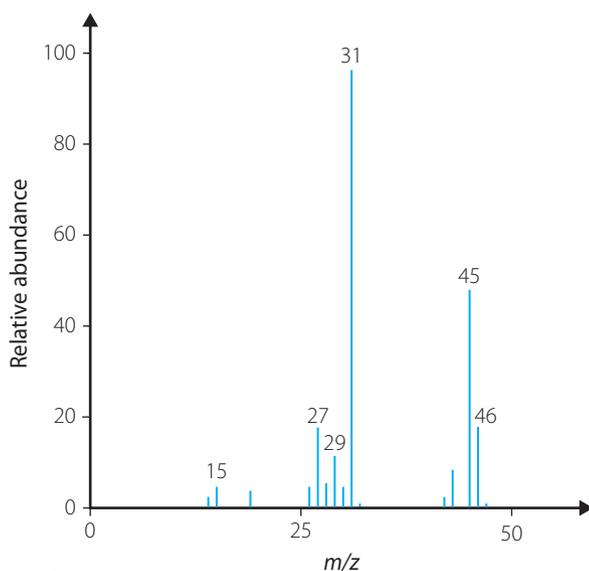
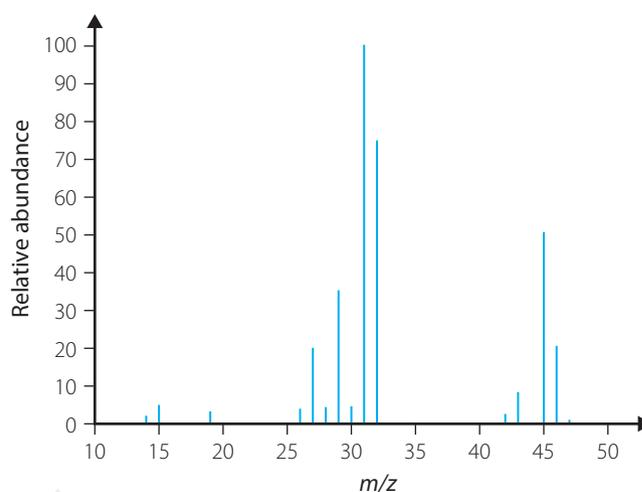

FIGURE 15.8 Mass spectrum of ethanol
FIGURE 15.10 Mass spectrum of contaminated sample
- Figure 15.8 shows the mass spectrum of ethanol.
9 There was concern at a bioethanol plant that the ethanol had become contaminated with methanol. To check this, a chemist tested a sample and obtained the following mass spectrum for the sample (Figure 15.10). Compare the spectrum of the contaminated sample with that of ethanol in Figure 15.8.